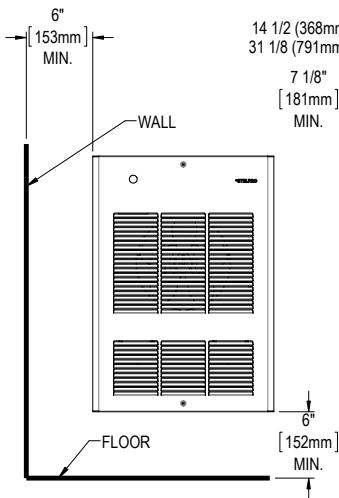
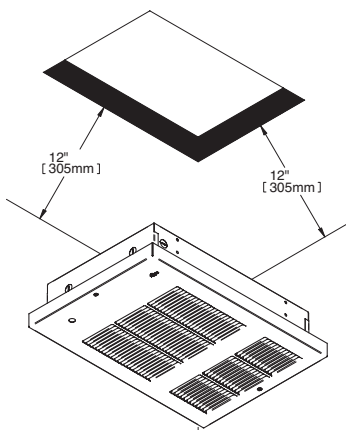

FIG. 1
FIG. 4
1. Recessed and surface installation of AWF units (wall mounting) must meet the minimum distances for single and double units (see figures 1 and 2). For ACF units (ceiling mounting), must be installed at no less than 12" (305 mm) from adjacent walls and between 8' (244 cm) and 10' (305 cm) from the floor (see figure 4).